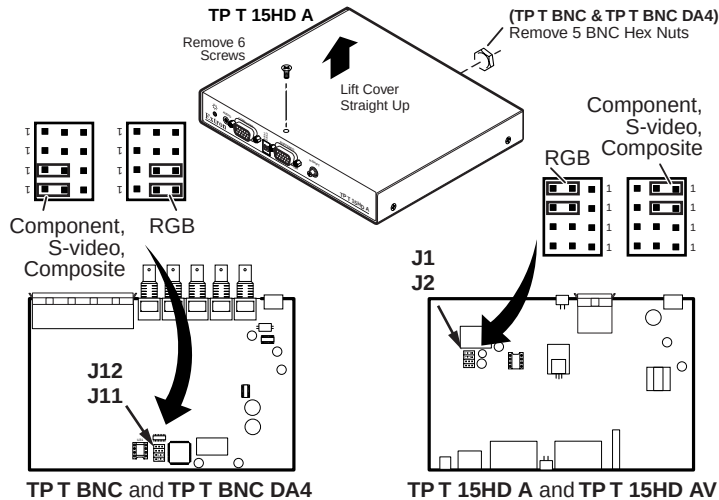

Figure 2-1 — Video jumper configuration
1. Remove the two screws on each side and the screw on top of the cover (figure 2-1).
4. **TP T 15HD A and TP T 15HD AV** — Locate J1 and J2 on the printed circuit board. See figure 2-1.
TP T BNC and TP T BNC DA4 — Locate J11 and J12 on the printed circuit board. See figure 2-1.